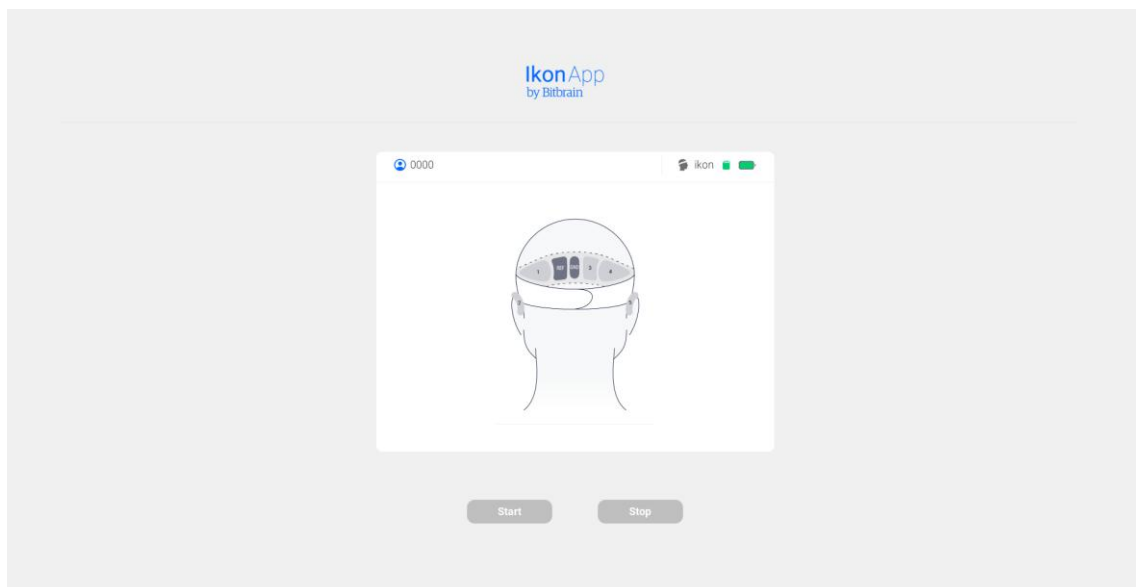

Figure 57. Ikon App Main Window
- Ikon App will open displaying the main window shown in Figure 57. Here, the online impedances read from the sensors of the device can be checked. This window also allows the user to identify the participant and device being used for the current session.